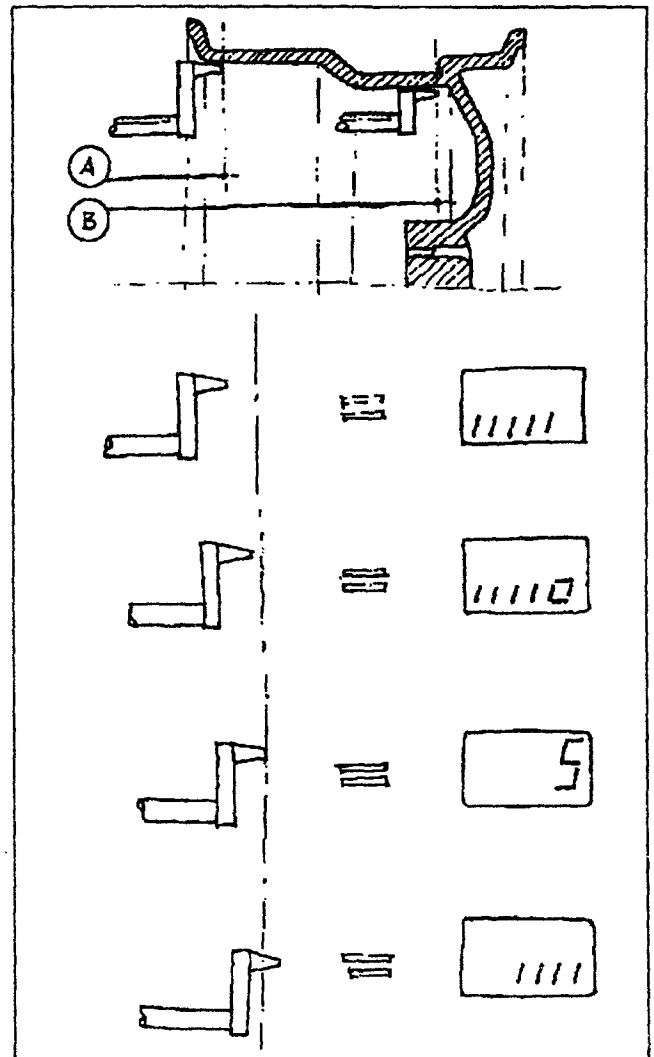

Fig.55
- A. Move the offset/diameter gauge to the position where the inner wheel weight will be fitted (measure A Fig.55).
B. Now extract further the offset/diameter gauge to point to the position of the second correction plane (measure B Fig.55).
TO ACTIVATE 'ALU' 'S-' PROGRAM THE DIFFERENCE BETWEEN MEASURE A AND MEASURE B FIG.55 HAS TO BE AT LEAST 51 MM. (2").
The correct position where to tape the weight is reached for each plane, when the corresponding display shows the imbalance amount. Instructions are given on the displays while approaching the exact position, as shown in Fig.55.